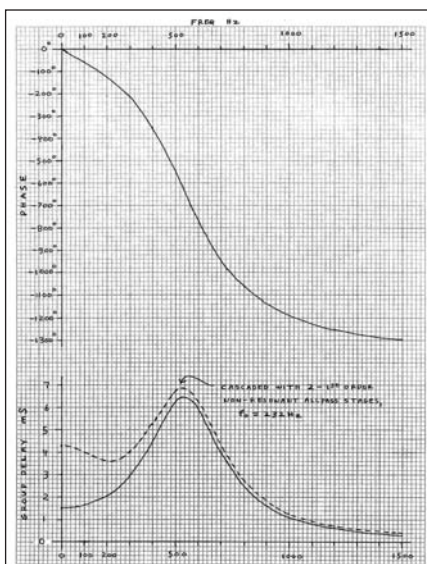
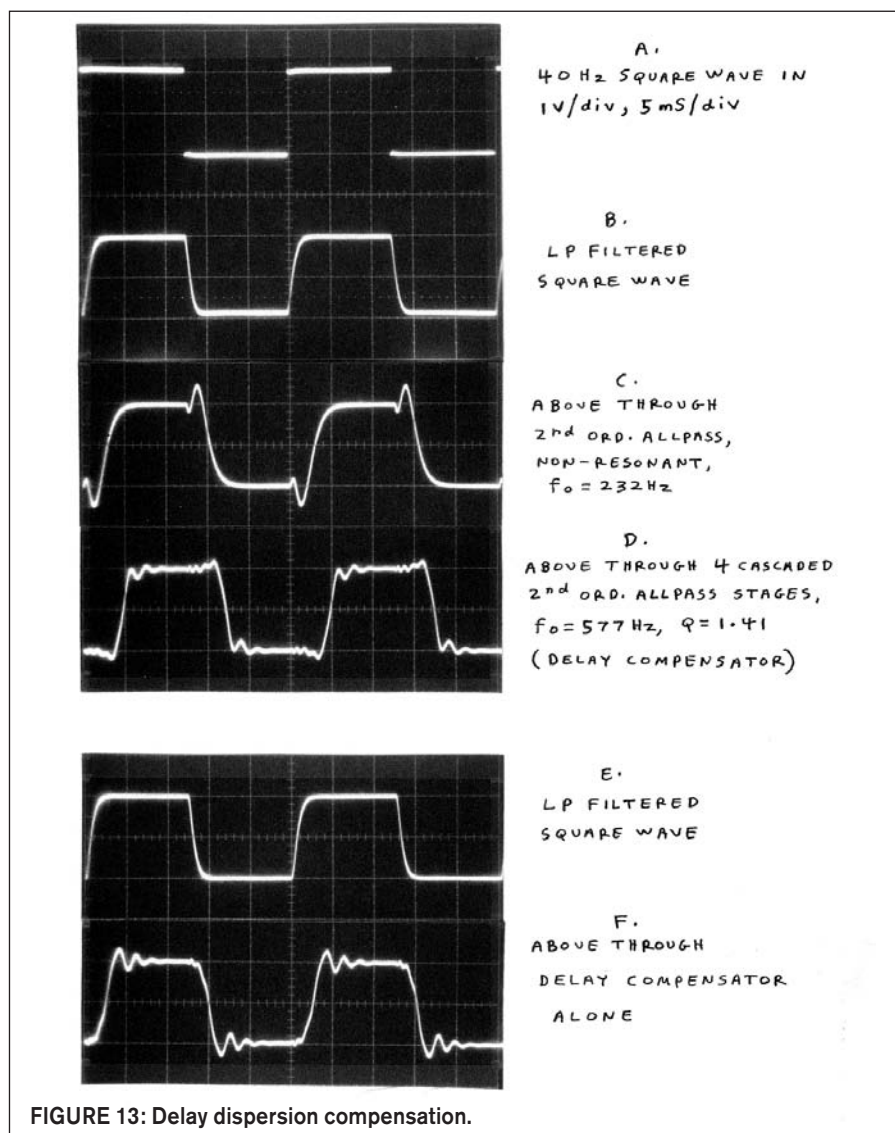
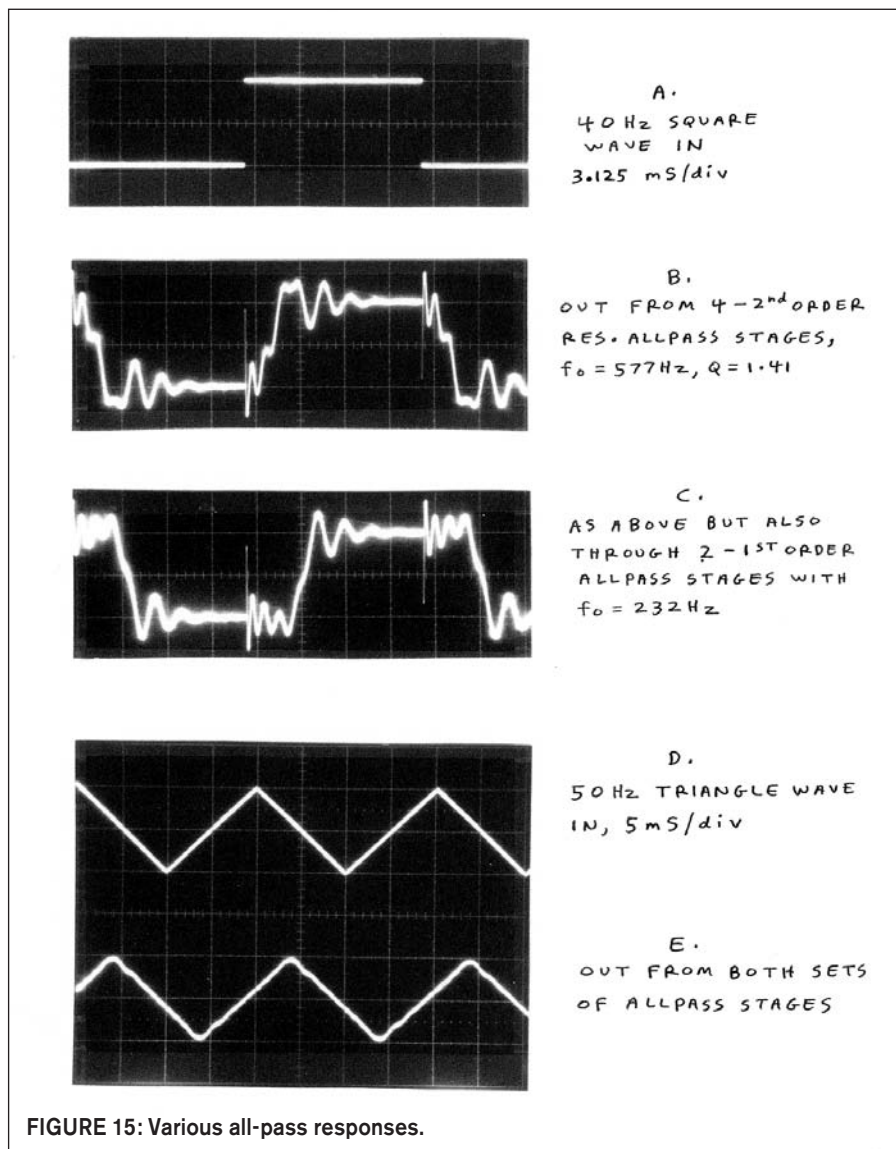

FIGURE 11: Phase and group delay, four cascaded 2nd order resonant all-pass stages.
FIGURE 13: Delay dispersion compensation.
FIGURE 15: Various all-pass responses.
Figure 11 shows the phase and group delay (solid curves) of the cascade of four second-order stages. At the f_0 of 577Hz, the phase shift is -720° ; that is, a 577Hz sine wave is phase-shifted by two full cycles. The group delay starts at 1.556mS (the T_0 value) and increases to a peak around 530Hz of about 6.4mS. Then the group delay drops steeply, for example, to 0.332mS at 1.5kHz.
spite the overcompensated group delay (dashed curve in **Fig. 11**), using only two first-order stages produced the most symmetrical square-wave response.
Figure 13 shows the results. The filtered square wave in waveform B is the test signal. Waveform C shows the response of the second-order all-pass circuit, similar to a third-order speaker CO. This is then fed through the eighth-order resonant all-pass, whose output is waveform D. Note how, compared to C, the shape is more "square" overall, with steeper sides and reduced overshoot. The small HF wiggles in D are from the crude, far from optimized delay compensation I mentioned. But you can see the basic principle at work here. Note the delay of about 4mS.
Waveform F in **Fig. 13** is the response to the filtered square wave (E) of the eighth-order resonant all-pass by itself (without the second-order non-resonant all-pass). Note that the lower frequency filtered step excursion responds before the most prominent higher frequency wiggles. This is from the rising delay curve in **Fig. 11**, the lower solid curve from DC to 530Hz. **Figure 14** shows
In Fig. 15, waveform A is a 40Hz square wave, and B is the response from the eighth-order resonant all-pass. C is the response through the combination of the eighth-order resonant and second-order non-resonant networks. B and C display the group delay variations shown in Fig. 11, bottom, the solid and dashed curves, respectively. In waveforms B and C, the first arrival is the faint short spike, containing the highest step pulse frequencies that are delayed very little.
In C, you can see this spike "spring" into ripples of decreasing frequency. This represents the increasing delay as the frequency in Fig. 11 decreases from above 1.5kHz to 530Hz. Then (back to Fig. 15C), the signal makes its large step excursion toward the opposite square-wave polarity. Notice that the delay from the initial spike to the step excursion midpoint (at zero volts) is about 4mS. In Fig. 11, dashed curve, the LF group delay (from DC to about 300Hz) is close to this 4mS value.
From about 5 to 7mS after the initial spike, you see another set of prominent wiggles (after each step transition). This corresponds to the 380 – 660Hz region in Fig. 11 (dashed curve), where the group delay ranges from 5mS to the 6.8mS peak value.
For example, my two best speaker systems are the Swans M1 with Scan-Speak sub (aX Sept. '05)⁵ using a second-order CO, and the Venue Speaker (aX Nov. '06)⁶ with first-order woofer CO. Both have a very flat in-room response down to about 30Hz. But the attack transients of electric or acoustic bass, low piano notes, drums, and low-pitched guitar notes sound naturally precise (clean "bite" or "snap") on the first-order Venue. On the second-order Swans/Scan-Speak, these attack transients still sound clean, but not quite as naturally "biting." When I first tried a third-order woofer CO on the Venue proto, bass and drum transients were "recessed behind the scene," sounding "not quite there." On p. 20, Fig. 15 of the Venue article, note the clean 80Hz square wave.